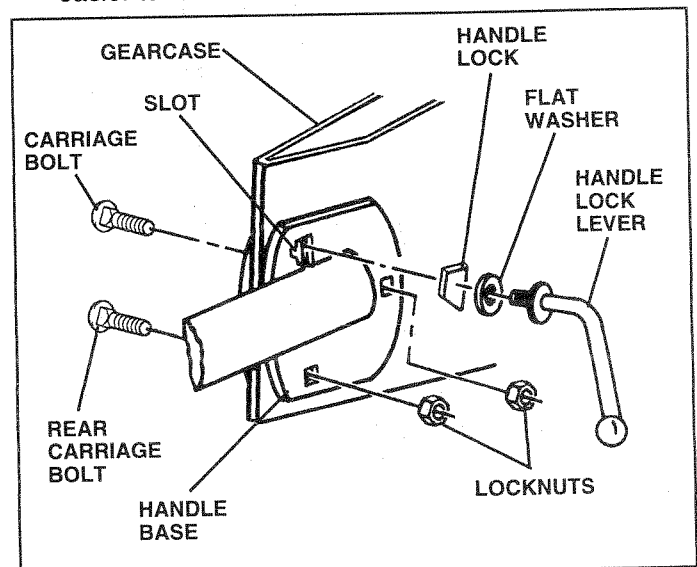

FIG. 5
- Rotate handle assembly down. Insert rear carriage bolt first, with bolt head on L.H. side of tiller (See Fig. 5).